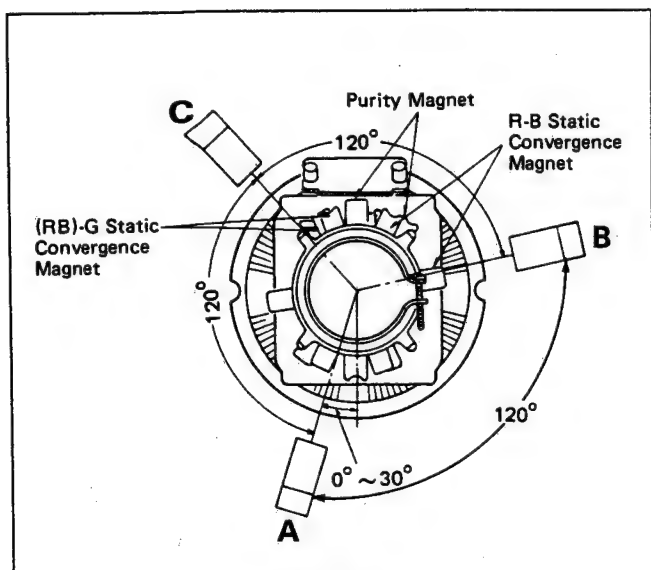

Fig. 35
1. Wedge A shown in Fig.35 should be fixed within a range of $0^\circ \sim 30^\circ$ to the left of the vertical line as shown.